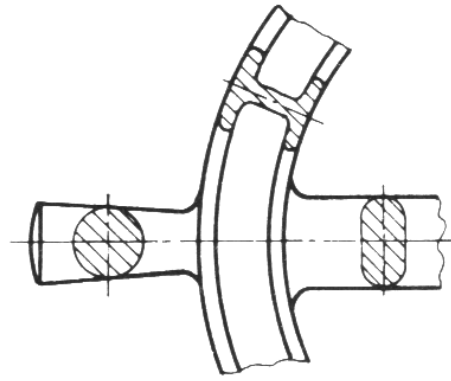

Figure 2.4d.
**Revolved** sections are useful when clarifying local cross-section shapes as shown in Figure 2.4d.